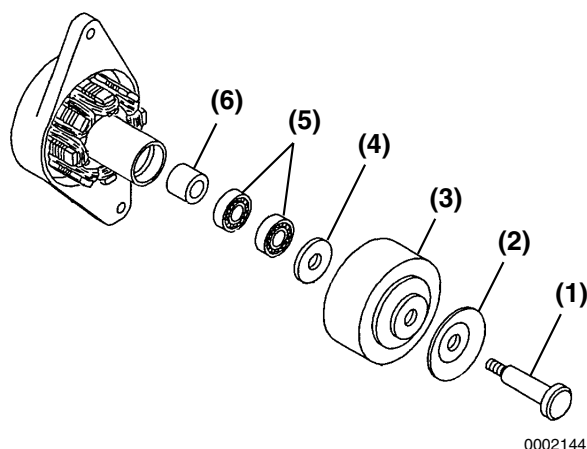

Figure 12-25
3. Remove the through bolt (**Figure 12-25, (1)**), pulley half (**Figure 12-25, (2)**), flywheel (**Figure 12-25, (3)**), flat washer (**Figure 12-25, (4)**), bearings (**Figure 12-25, (5)**), and spacer (**Figure 12-25, (6)**).